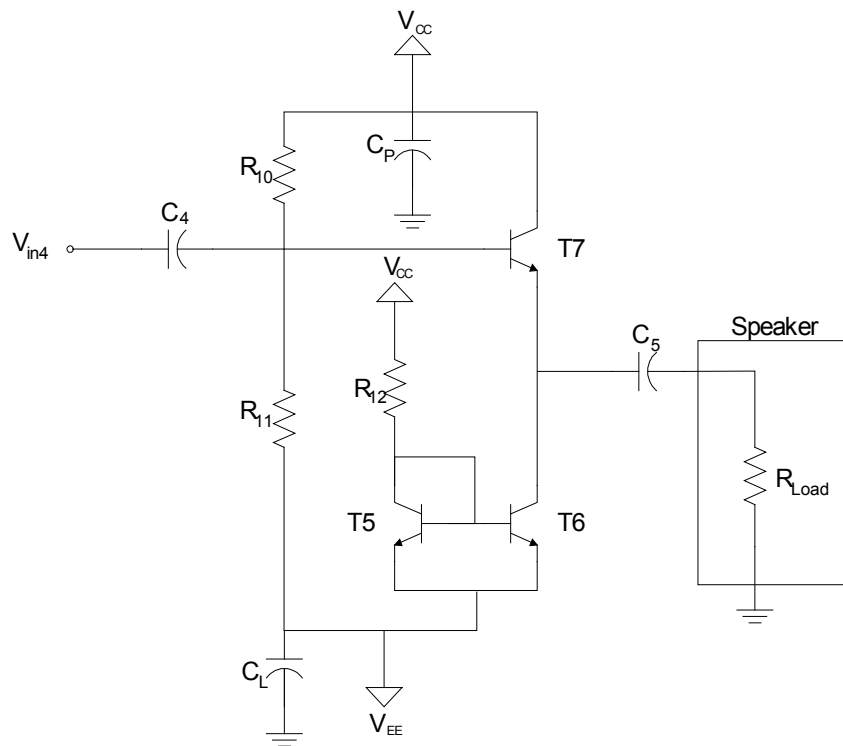

Figure 5- Class A output stage
- 3.3.1 Build the circuit shown in Figure 5. Measure the overall frequency response (create a plot) noting the in-band gain, 3-dB cutoff frequency. Verify that the frequency response is the same for large and small signal inputs, in order to ascertain the circuit is correctly designed to drive the speaker.